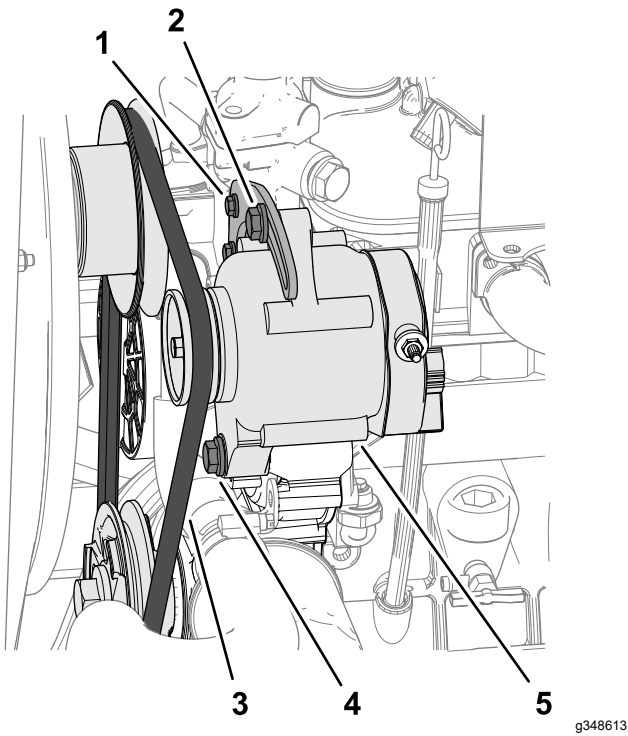

Figure 83
4. Apply 10 kg (22 lb) of force against the alternator belt (Figure 83), midway between the pulleys.
- If belt deflection is less than 10 mm (3/8 inch), loosen the alternator pivot bolt and tension bolt (Figure 83), and reduce the belt tension.
- If belt deflection is greater than 10 mm (3/8 inch), loosen the alternator pivot bolt and tension bolt (Figure 83), and increase the belt tension.
**Note:** If needed, loosen the tension bracket bolt (Figure 83).
6. Tighten the bolts (Figure 83).